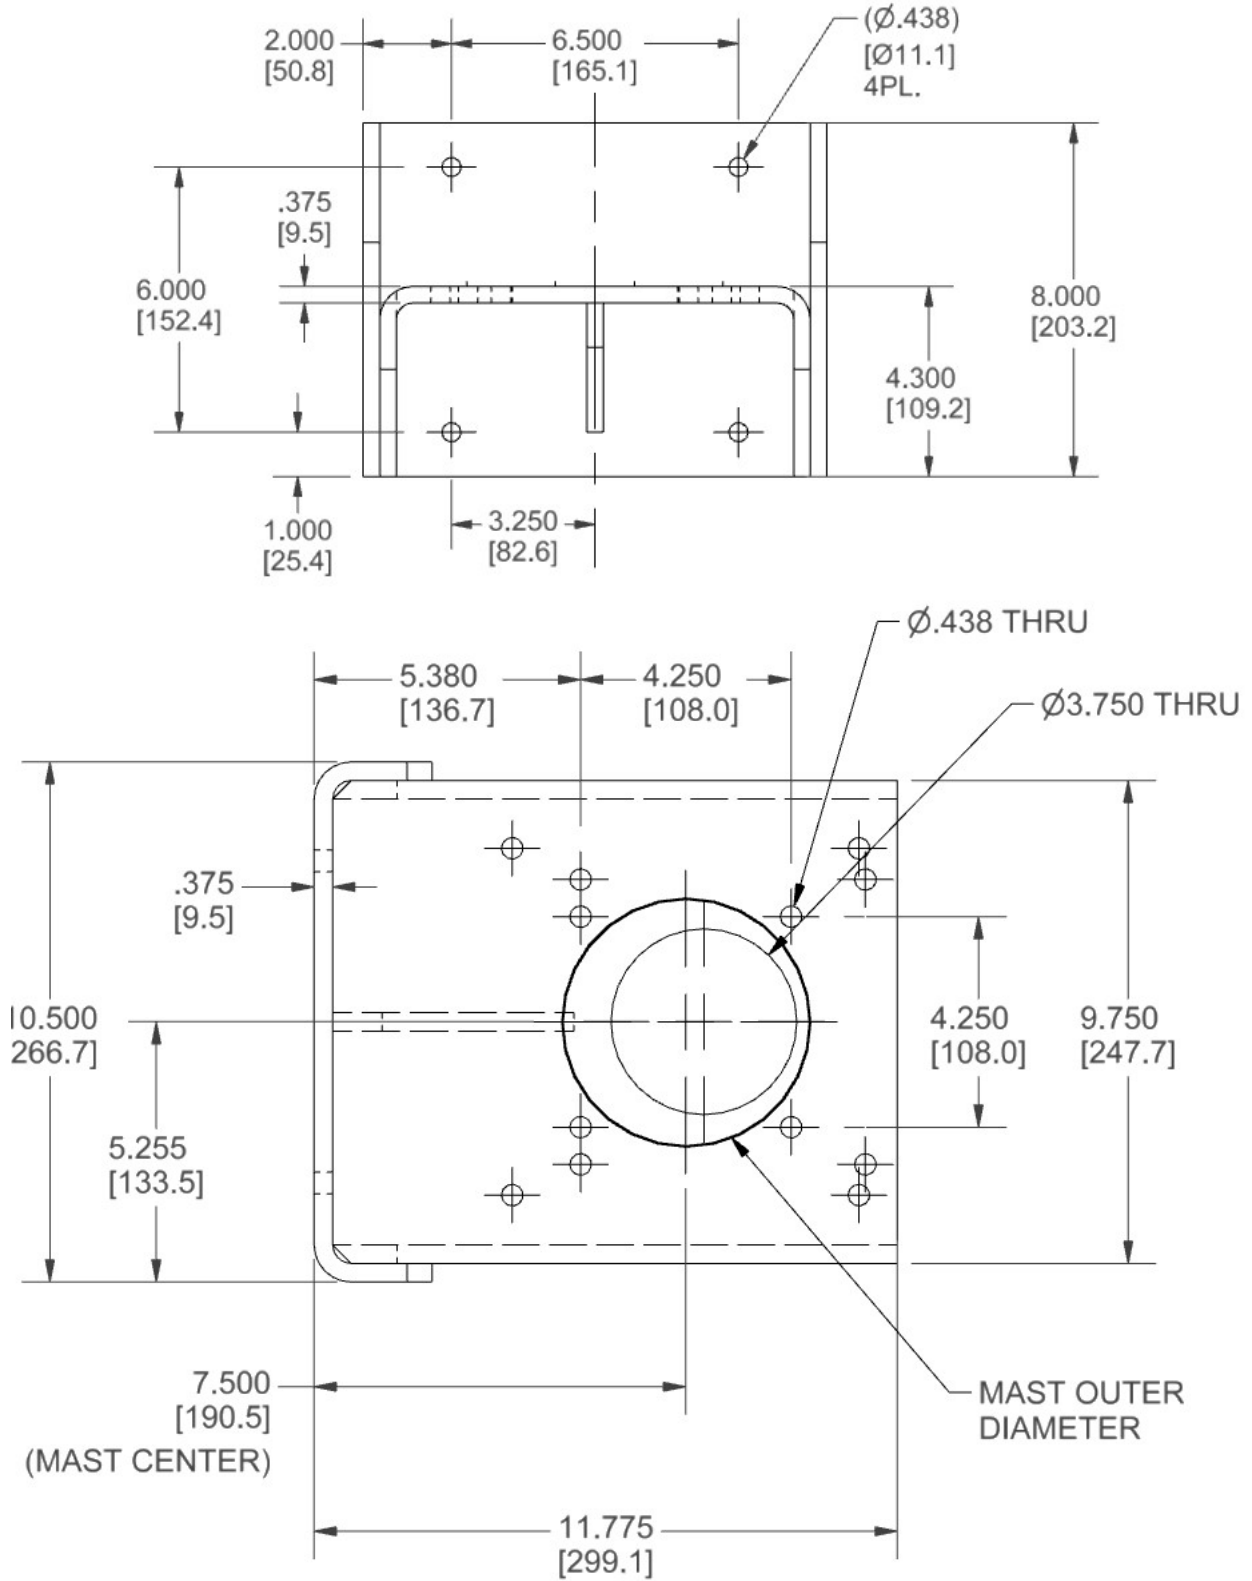

Figure 5-9 Shelf Bracket Installation Dimensions
1. Drill holes according to the dimensions shown in Figure 5-9, or use the shelf bracket as a template.